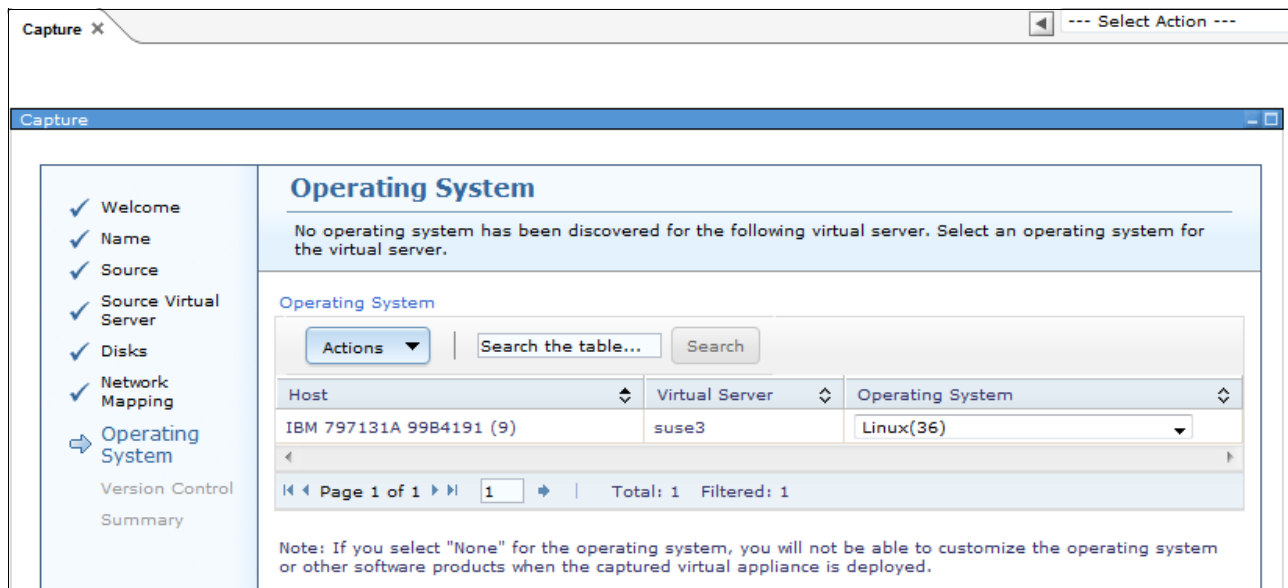

Figure 3-85 VMControl Capture wizard: Operating System
18. As shown in Figure 3-85, specify the OS in the Operating System window. Click **Next**.